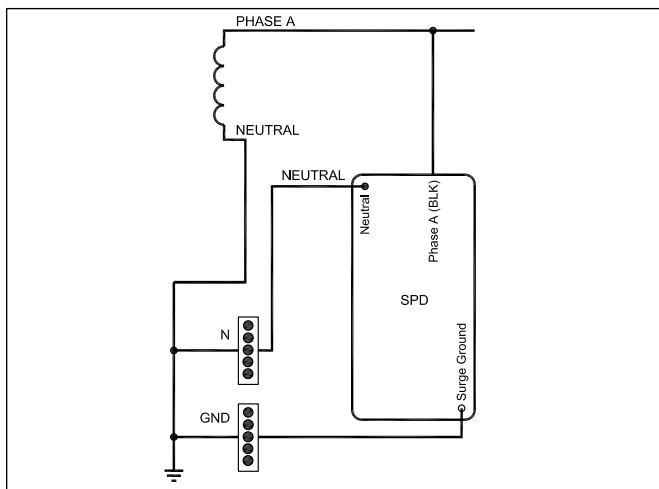
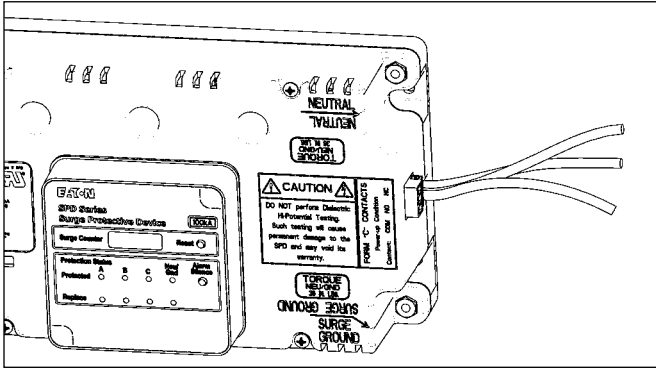

Figure 6. Wiring—single-phase units (230 L)
Figure 15. Phase connections
6. Select the correct wiring diagram for the SPD you are installing. You must refer to this diagram while wiring the SPD. See Figures 6, 7, 8, 9 and 10.
5. Connect phase wire to circuit breaker. NEC requires that conductors to a surge device be protected by an overcurrent protection device. The cables on the SPD are #10 AWG, therefore would require a 30 A 3-pole breaker. See Figure 15, and the wiring diagrams shown in Figures 6, 7, 8, 9 and 10.